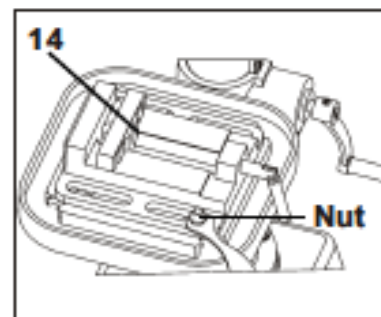

Fig 10
You could use the Vice(14) when you drilling the small parts. Fitting the Vice(14) upon the Work table(10), using the Bolts through the work table's U-holes under the table. Then secure them on the upper side of the Vice(14) with the Flat Washer and Nuts. (Fig 10)